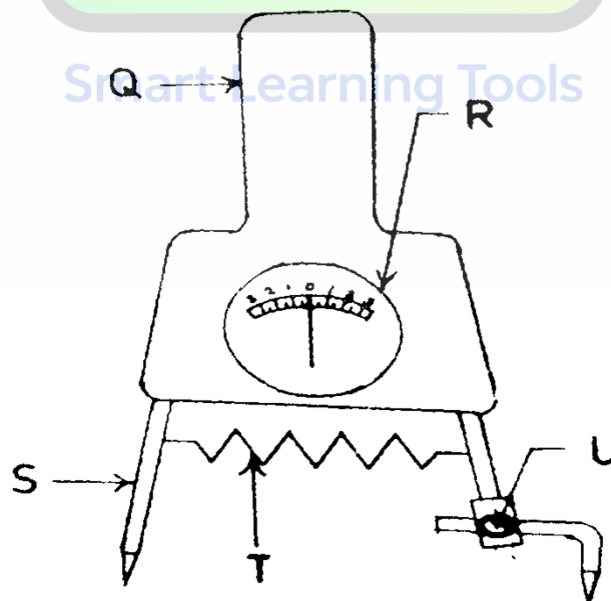

Figure 3
a. The sketch shown in Figure 3 is an electrical component.